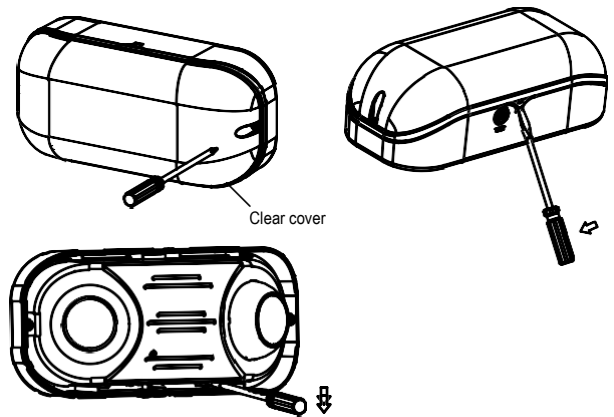

Fig 1
1. Use a Phillips-head screwdriver to loosen 2 screws (see Fig 1).